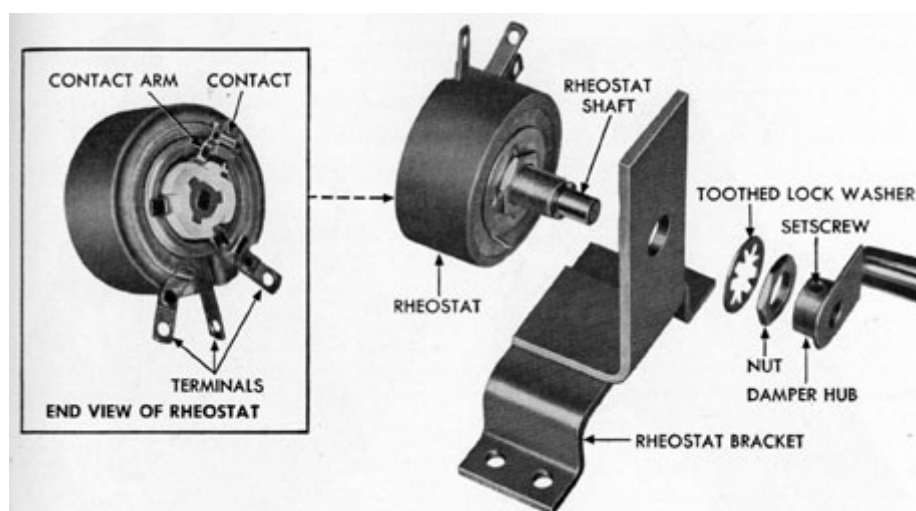

Figure 13-48. Rheostat removed.
**13G50. Removing the rheostat.** (See Figure 13-48.) The 500-ohm rheostat is replaced as a unit. Remove the four screws and lock washers that secure the rheostat bracket to the main mounting plate, and lift the rheostat away from the mounting plate. Unsolder and tag the electrical leads. Loosen the setscrew in the damper hub while holding the rheostat shaft in position in the rheostat. It is necessary to hold the shaft in position to prevent the rheostat spring from ejecting parts from the rheostat. Remove the damper hub, spring, and frame assembly from the rheostat shaft. Remove
(See Figure 13-48.) Carefully remove the lock washer from the shaft of the new rheostat while holding the shaft in position within the rheostat. This is necessary to prevent the internal parts from becoming lost when the washer is removed. Remove the nut and toothed lock washer from the replacement rheostat. Place the rheostat in its bracket and secure it with the toothed lock washer and nut provided. Align the damper hub of the damper spring and frame assembly with the flat-on end of the rheostat shaft, and tighten the setscrew in the damper hub. Place the rheostat and bracket in position on the main mounting plate, and secure them with the four screws